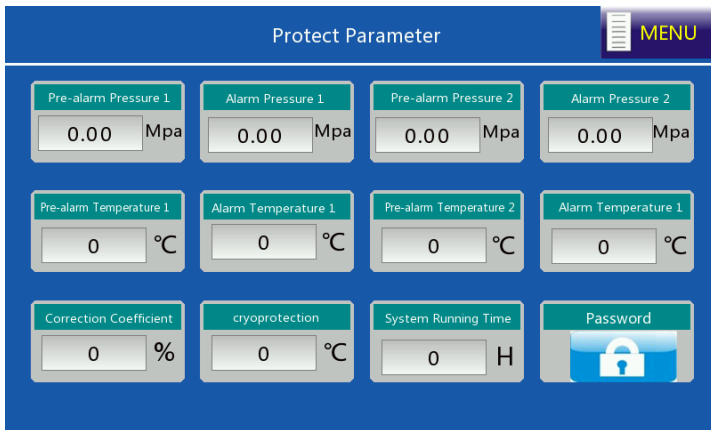

Figure 4-12 Protection parameter interface
8. Choose **Protect parameter** in the menu. The interface shown in Figure 4-12 is displayed.